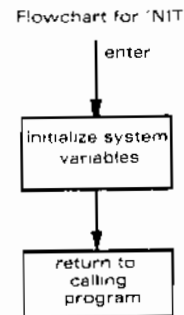

Figure 5
4. INIT - The Initialization routine (See Figure 5.)